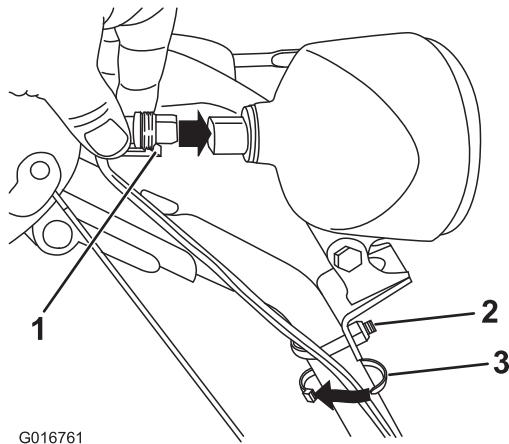

Figure 12
1. Insert the wire connector on the loose end of the wire straight into the back of the headlight until it is securely in place (Figure 12).
**Note:** Ensure that the plastic clip on the wire connector is on the bottom (Figure 12).
2. Secure a cable tie (from the loose parts bag) around the wire and the handle about an inch (2.5 cm) below the U-bolt (Figure 12).